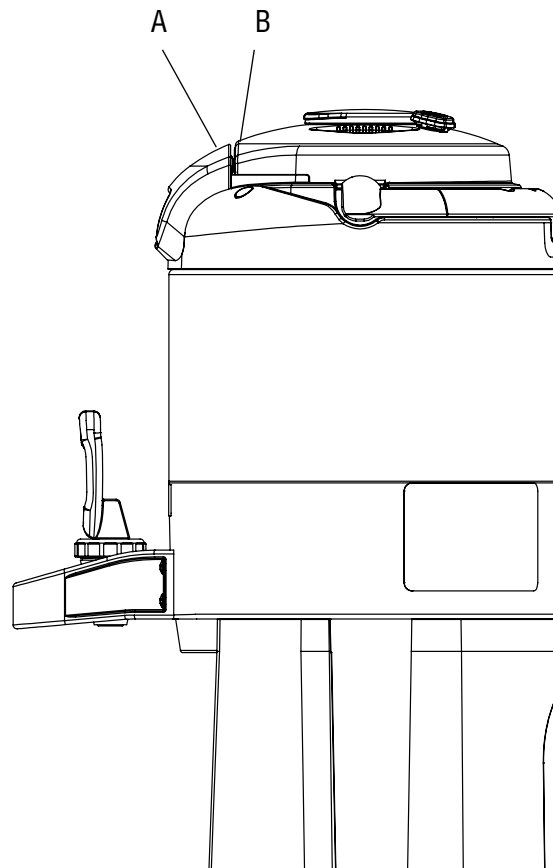

FIG. 3
Proper installation of the sensor assembly is achieved by aligning the contacts of the sensor assembly (B) with the contacts on the back of the sight gauge (A) when the sever handle is in the fully open position. Once the sensor assembly is engaged into the server, it is locked in place by flipping the handle over approximately 180° as shown in Fig 3.